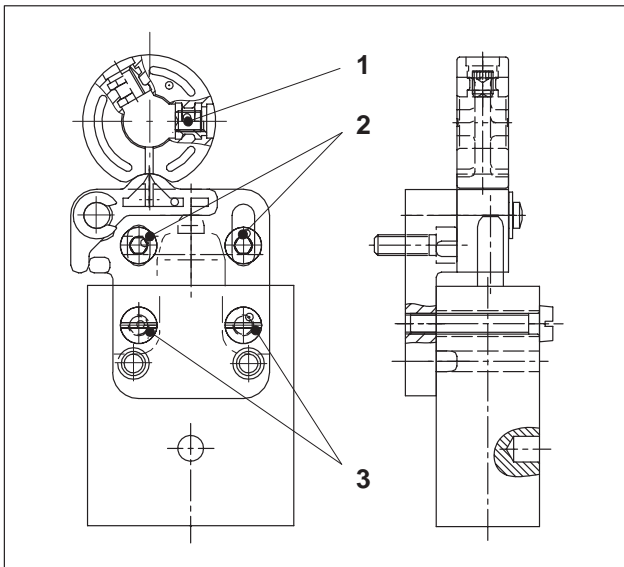

Fig. 3 Snap-action switch
After having replaced the switch, apply thread glue SN 604-S1 on the Allen screws M4 (Fig. 3/3) and tighten the screws.
- 4 Tighten the Allen screws (Fig. 3/2) with a torque of 5 Nm.
- ❷ Moisten the grub screw M4 (with Allen screw and cupped gripping point, Fig. 3/1) with thread glue SN 604-S1 and tighten it at a torque of **1 Nm**.
- ❸ Seal the hexagon socket set screw M4 with lacquer.